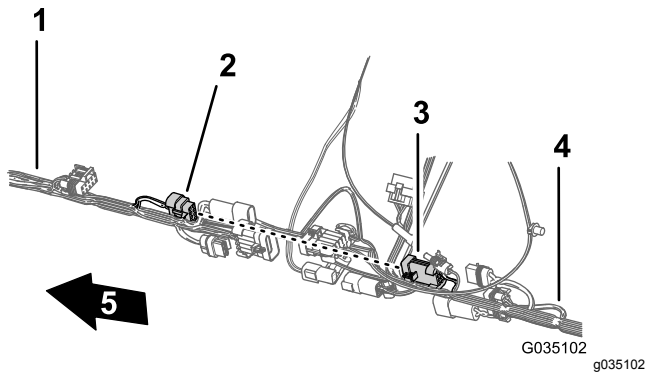

Figure 88
3. Connect the 8-pin connector of the front harness for the sprayer-harness interconnect into the 8-socket connector of the rear harness for the rate switch (Figure 88).